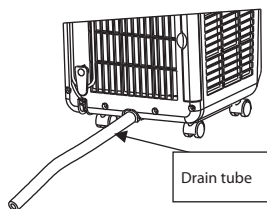

Fig. 20
2. Place the PVC hose with an external diameter of 13 mm and clearance of 8-10 mm on the water drain (fig. 20).